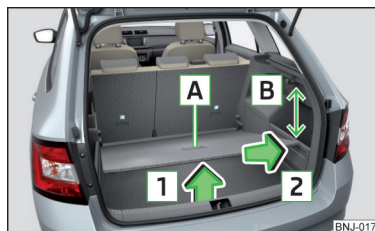

Fig. 93
- Grasp the variable loading floor at handle **A** » Fig. 93.
- When removing or inserting the variable loading floor, a distance of 15 cm **B** » Fig. 93 underneath the edge of the foldable cover must be adhered to - risk of damaging the boot lid seal.